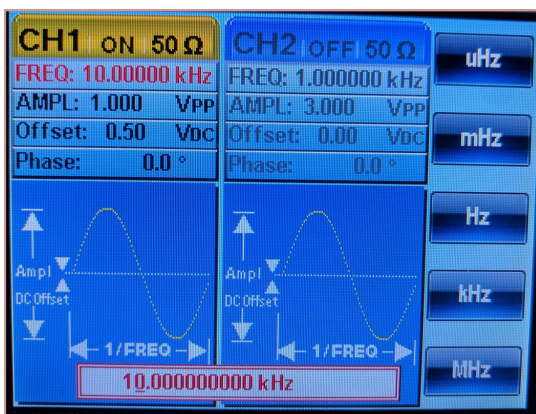

Figure 8. Function generator setup.
1. Set up the function generator as shown below in Fig. 8. The offset is there so that electrolytic capacitors are properly polarized. Make sure it is set to output a sine-wave.